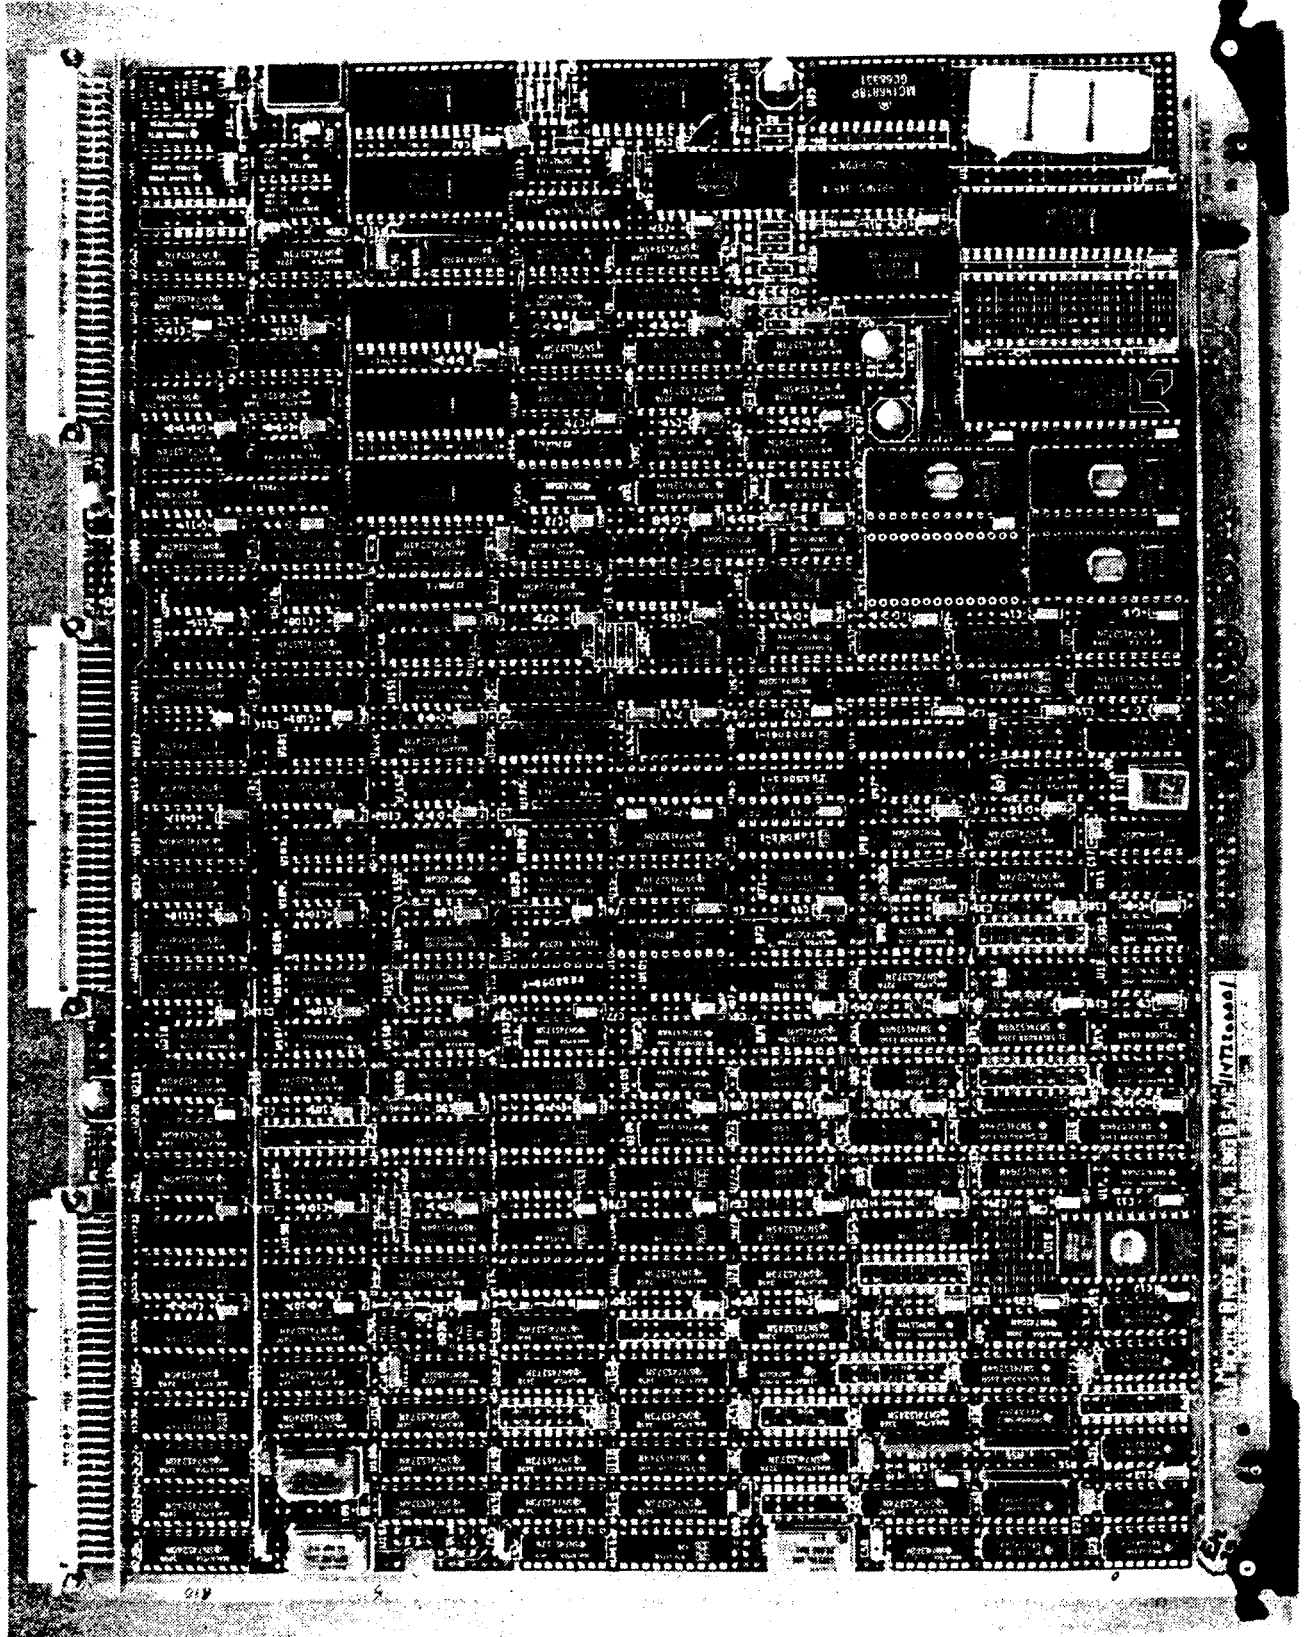

Figure 1-1. Nu Machine System Diagnostic Unit Board.
This manual provides unpacking, installation, testing, and operating information for the Texas Instruments Nu Machine (TM)* System Diagnostic Unit (SDU) board (see Figure 1-1). This section contains functional and physical descriptions to acquaint the user with the hardware components and capabilities of the Nu Machine SDU.